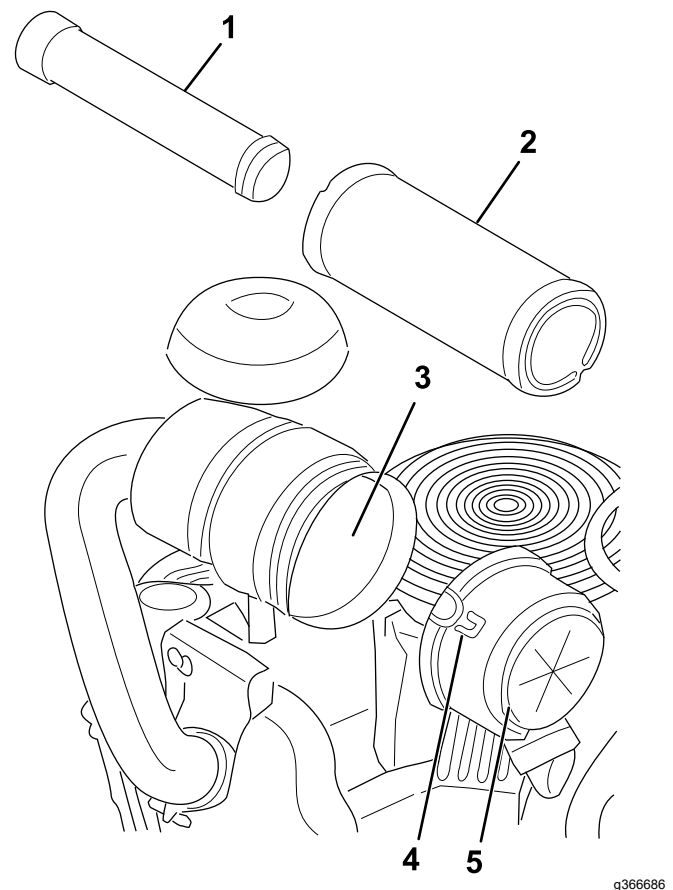

Figure 35
3. Release the latches on the air cleaner and pull the air-cleaner cover off the air-cleaner body (Figure 35).
5. Gently slide the primary filter out of the air-cleaner body (Figure 35).